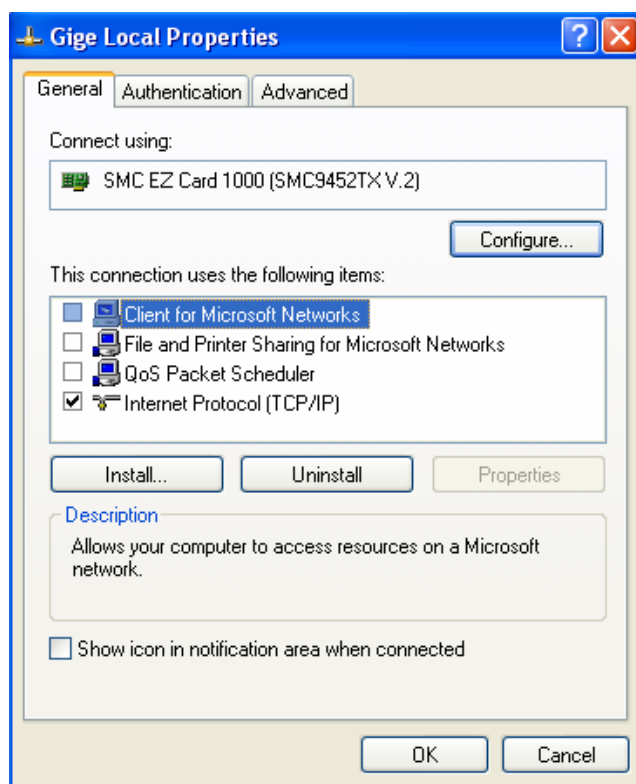
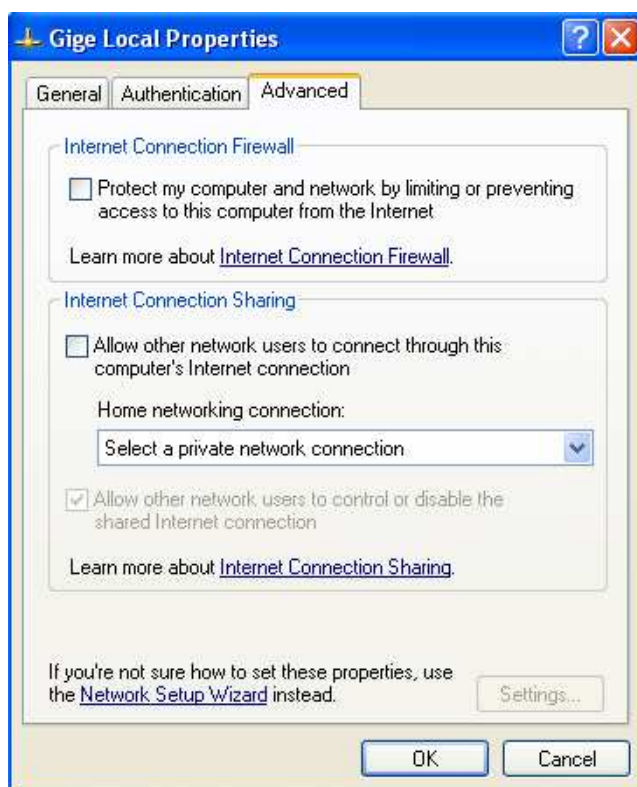

Figure 5. Network card main properties window.
Figure 7. Turn off Firewall.
- o Once the driver is installed, open the Network Connections Dialog as follows: From the Windows desktop select **start**, then select **Control Panel**, then double click on the **Network Connections** icon. Double click the relevant network card listed or right-click the relevant network card and select **Properties**. This will open the properties window for your network card. See Figure 5.
- o Return to the Gige Local Properties window as in Figure 5. Select the Advanced tab as in Figure 7 and disable the Firewall for this device. Click **OK** to save changes.